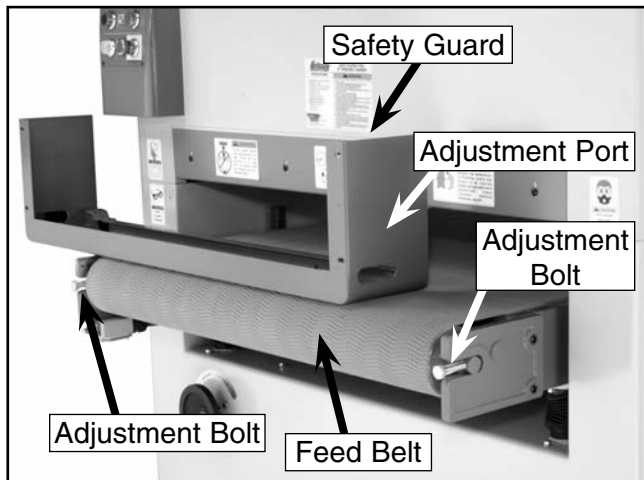

Figure 26. Feed belt tension adjustment bolts.
2. Find the adjustment ports in the safety guard (**Figure 26**) at the front end of the feed table.
3. Turn both left and right adjustment bolts (**Figure 26**) clockwise equally to increase tension.
2. If the feed belt is tracking to the **right** side of the table, turn the **right** adjustment bolt (**Figure 26**) clockwise.